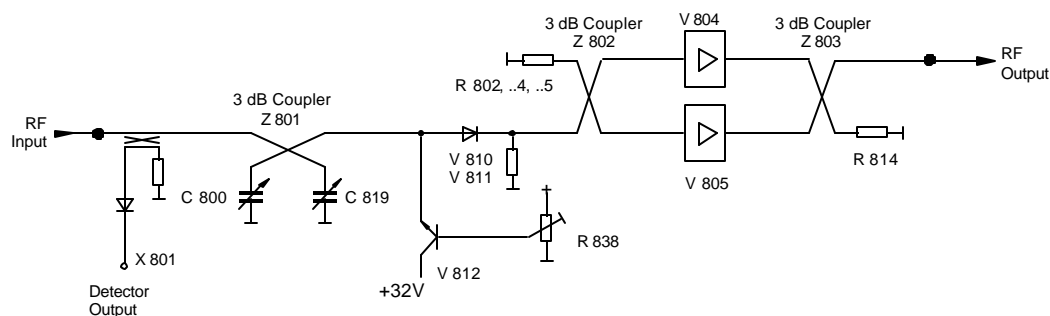

Figure 4-3: 40 Watt UHF Amplifier Module
The output of the UHF filter is connected to the input J1 of (A2) the 40 Watt UHF amplifier assembly (Figure 4-3). The assembly is made up of a (51-5378-308-00) module, which operates class AB and is a highly linear broadband amplifier for the frequency range of 470 to 860 MHz. It can deliver an output power of 40 watts (CW) with approximately 13 dB of gain. With a typical input of +23dBm an output of +36.2dBm is expected. The output is set as needed to provide the drive level to the external PA Assemblies.